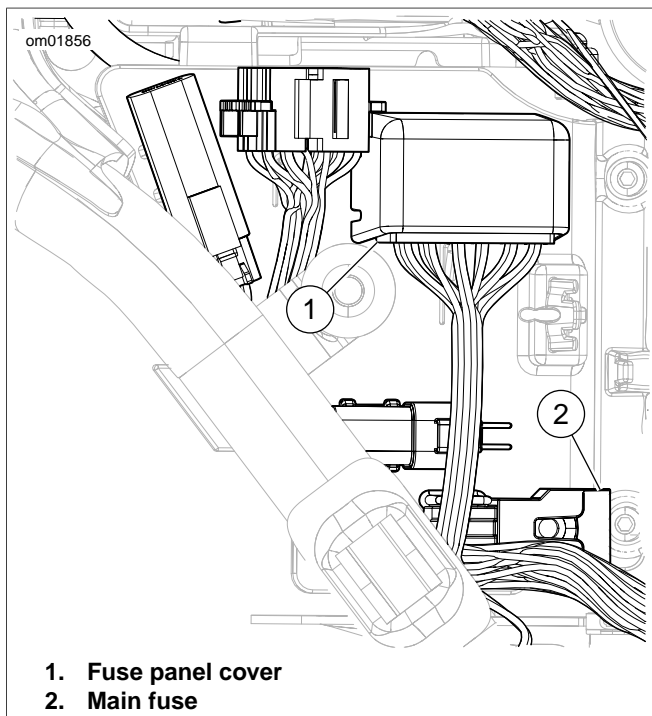

Figure 44. Fuse Panel and Main Fuse Location
3. See Figure 44. Remove the main fuse (2).
3. See Figure 44. Remove the fuse panel (1) cover.